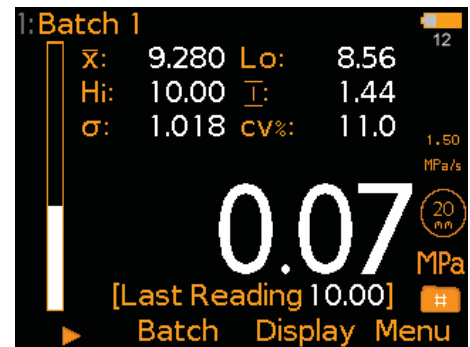

Fig. 2: Selected Statistics
- **Selected Statistics (Fig. 2);** As defined by the user via Display/Statistics/Select Statistics. The user can choose to view only those selected or view all. Select from: Number of Readings, Mean, Lowest Reading, Highest Reading, Range, Standard Deviation, Coefficient of Variation.